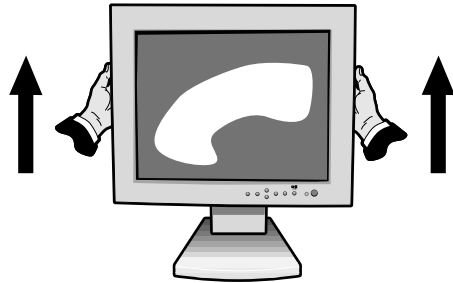

Figure R.1
Before rotating, the screen must be raised to the highest level to avoid knocking the screen on the desk or pinching your fingers. To raise the screen, place hands on each side of the monitor and lift up. (Figure R.1).
2. Place hands on each side of the monitor screen and raise it to the maximum height (Figure R.1).